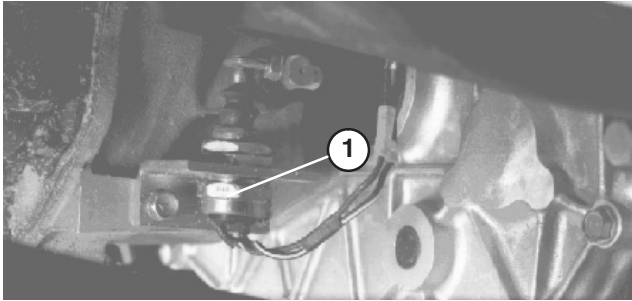

Figure 46
7. Recheck the clutch safety switch adjustment (Fig. 46). The engine must not crank unless clutch pedal is $1.25'' \pm .12''$ from floor. If an adjustment is required, loosen switch jam nuts and adjust up or down.